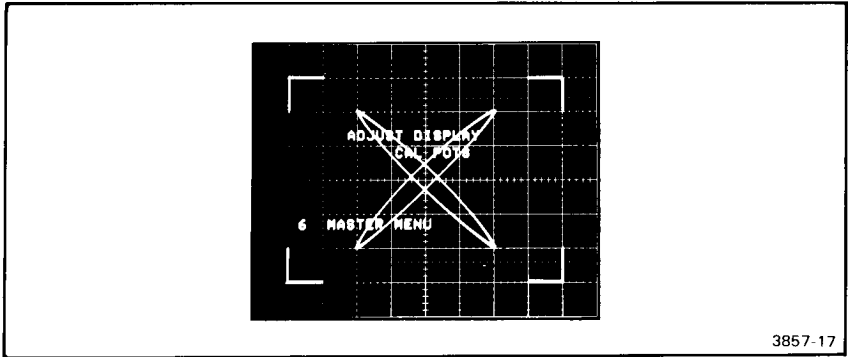

Figure 2-9. Adjust VERT CTR and VERT GAIN.
Step 4 Adjust the VERT CTR (vertical center) and VERT GAIN (vertical gain) controls to align the upper and lower horizontal edges with horizontal lines 1 and 7 of the display graticule as shown in Figure 2-9 (bottom graticule line is 0). As with the HORIZ CTR and HORIZ GAIN controls, these vertical adjustments are interactive and may require that you work back and forth between them to optimize this adjustment.